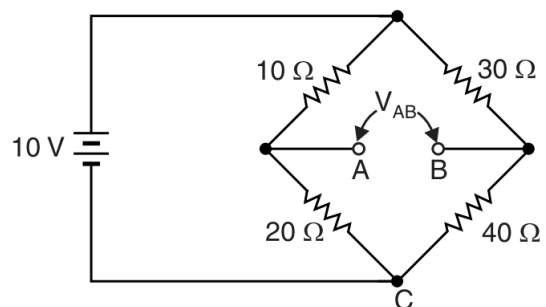

Fig. 1.3
7. A battery of unknown e.m.f. is connected across resistances as shown in Fig. 1.3. The voltage drop across the  $8 \Omega$  resistor is 20 V. What will be the current reading in the ammeter? What is the e.m.f. of the battery?
8. Find the voltage  $V_{AB}$  in the circuit shown in Fig. 1.3